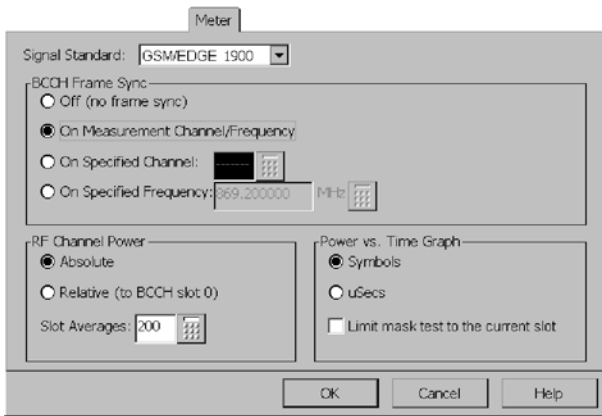

Figure 3-35: GSM/EDGE RF Power measurement parameters
3. Select a GSM/EDGE signal standard from the list at the top of the window. See Figure 3-35.